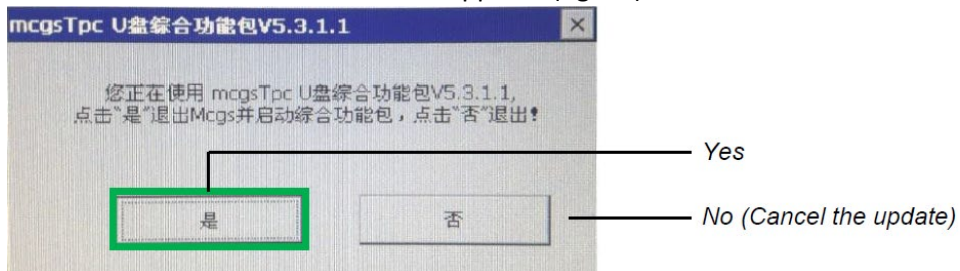

Figure 14
2. Power on the touchscreen using the switch to the left of the screen, after a few seconds a window with Chinese characters will appear. (fig. 14)